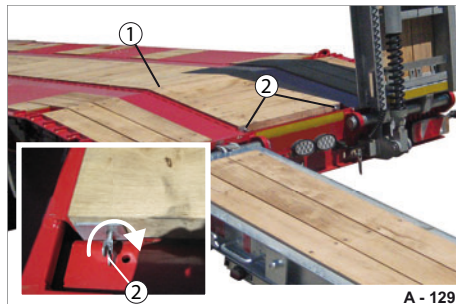

Fig. 122 Arm cavity, secured
- ▶ Screw the wing screws on (Fig. 122/2) tightly.